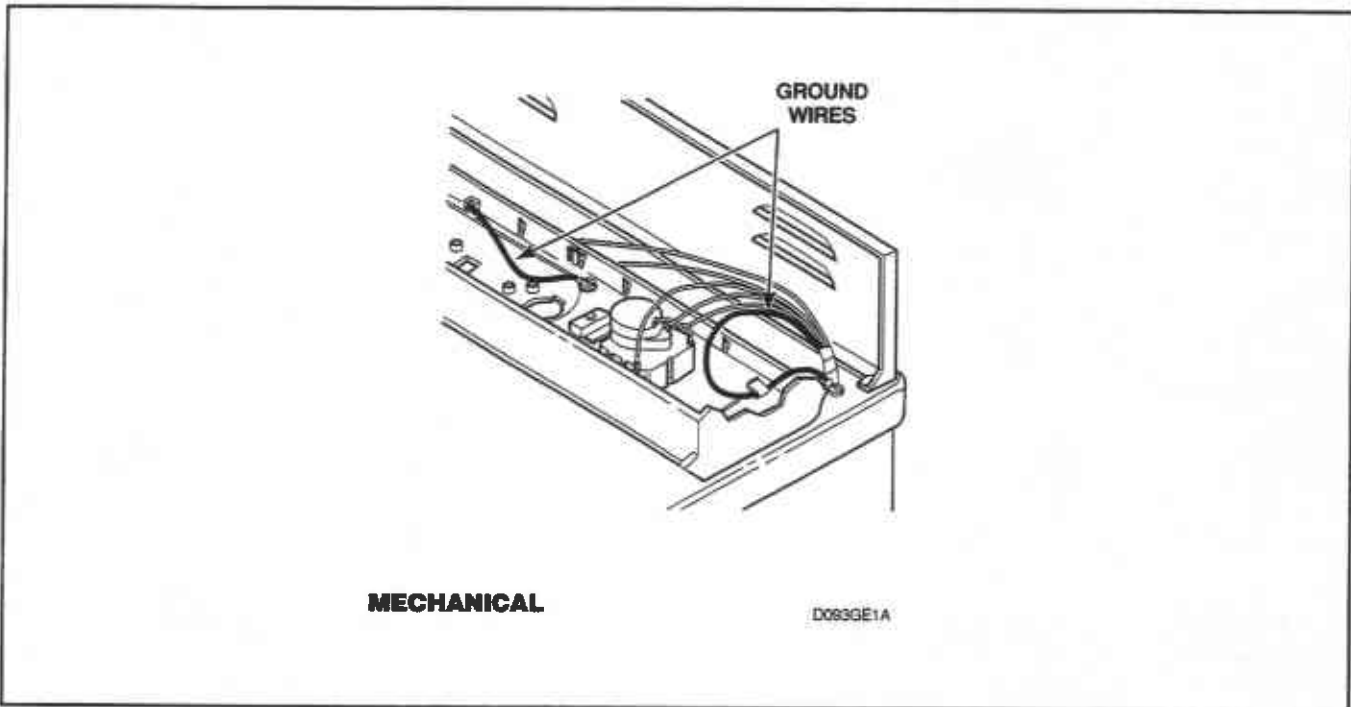

Figure 4
4. FROM REAR BULKHEAD TO TIMER MOUNTING BRACKET TO DRYER CABINET TOP. TIMER MOUNTING BRACKET TO GRAPHIC PANEL (Mechanical Timer Model Dryers — *Figure 4*).